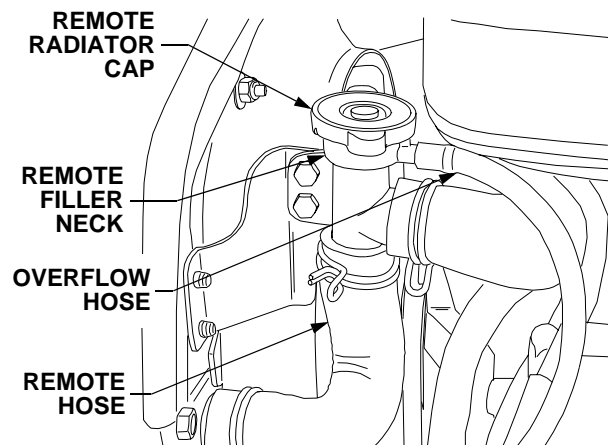

Figure 55
- Turn the remote radiator cap counterclockwise to the first stop to release any pressure. See Figure 55.
- Turn the remote radiator cap counterclockwise to the first stop, then push downward on the cap and turn counterclockwise to remove. Refer to Figure 55.